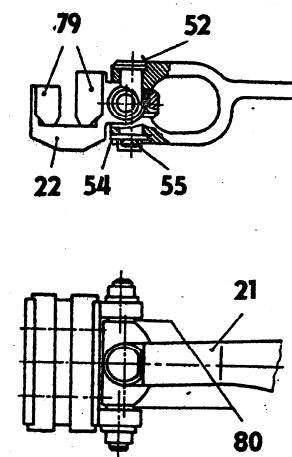

Figure 11-38 Carbon block assembly
(7) Carbon block assembly exchange - figure 11-38